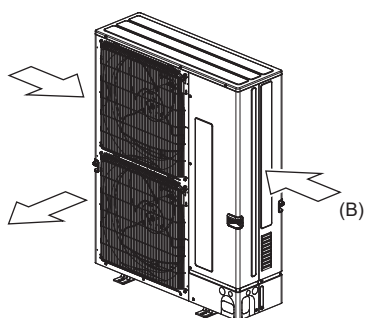

Fig. 2-6
- (3) Position the unit so that the air outlet blows perpendicularly to the seasonal wind direction, if possible. (Fig. 2-6)